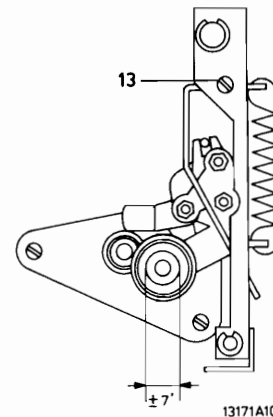

Fig. III-19
- The air bubble of the level in East/West direction must be within the outer adjustment ring, see Fig. III-19.